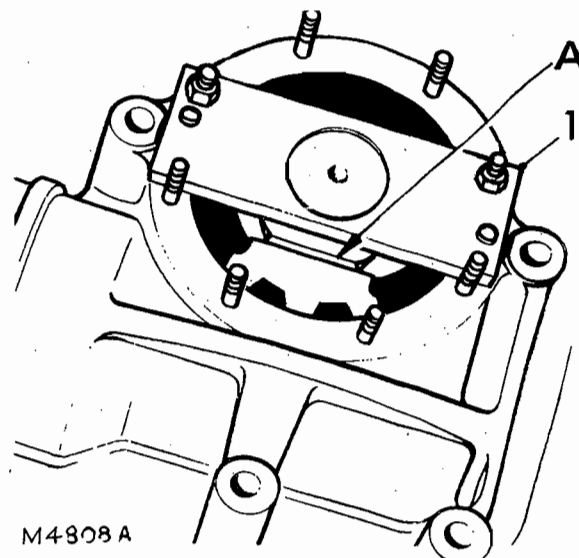

FIG. 4 APPLICATION OF SERVICE TOOL
14. Turn inner column towards either lock position and locate tool LC169, Fig. 4.